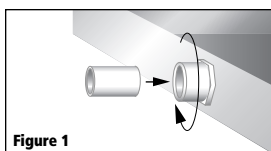

Figure 1
1. Screw adaptor into drain outlet on primary drain pan. Cut PVC stub to length & glue into adaptor (**Figure 1**).